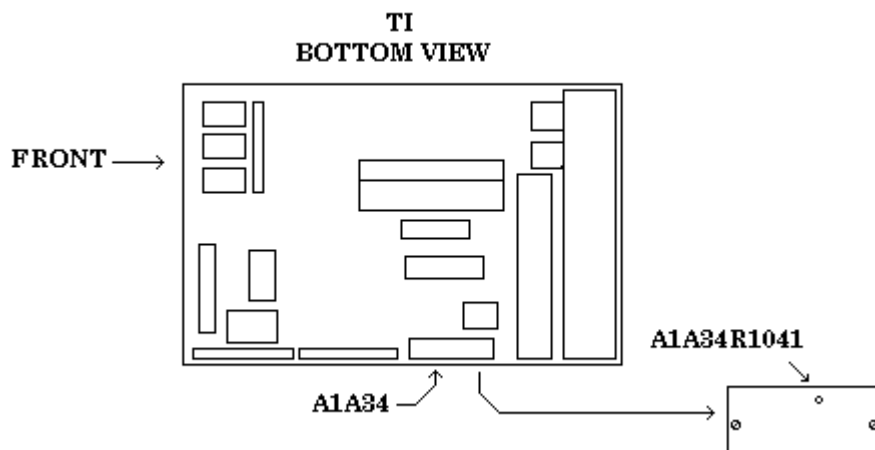

Figure 2. Cal out level adjustment.
(1) Disconnect equipment setup.
(2) Press and release TI spectrum analyzer **POWER** key to **OFF**.
(3) Disconnect TI power cord.
(4) Set TI spectrum analyzer on its front panel.
(5) Loosen four screws through the back rubber feet.
(6) Pull cover up and off.
(7) Place TI on its top and reconnect power cord.
(8) Connect measurement receiver power sensor to **TI CAL OUT**.
(9) Depress TI spectrum analyzer **POWER** key to **ON**.
(10) Adjust A1A34R1041 (fig. 2) for a -20.0 ± 0.3 dBm indication on measuring receiver (R).